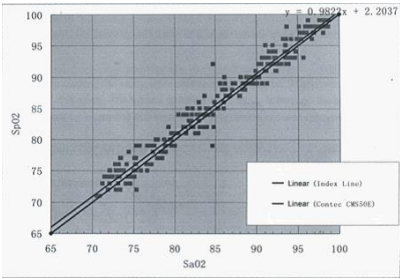
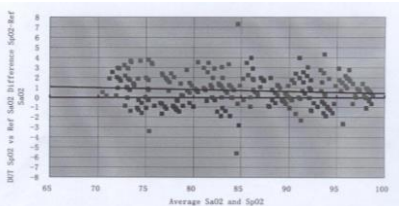

Figure 2 SpO₂ regression plot
Figure 3 Bland-Altman plot
- 5) **Measurement Accuracy:** ±2% in stage of 70% - 100% SpO₂, and meaningless when stage being smaller than 70%. ±2 bpm during the pulse rate range of 30 - 99 bpm and ±2% during the pulse rate range of 100 ~ 250 bpm. Clinical Trial :SpO₂ regression plot & Bland-Altman plot. Refer to Figure 2 & Figure 3.